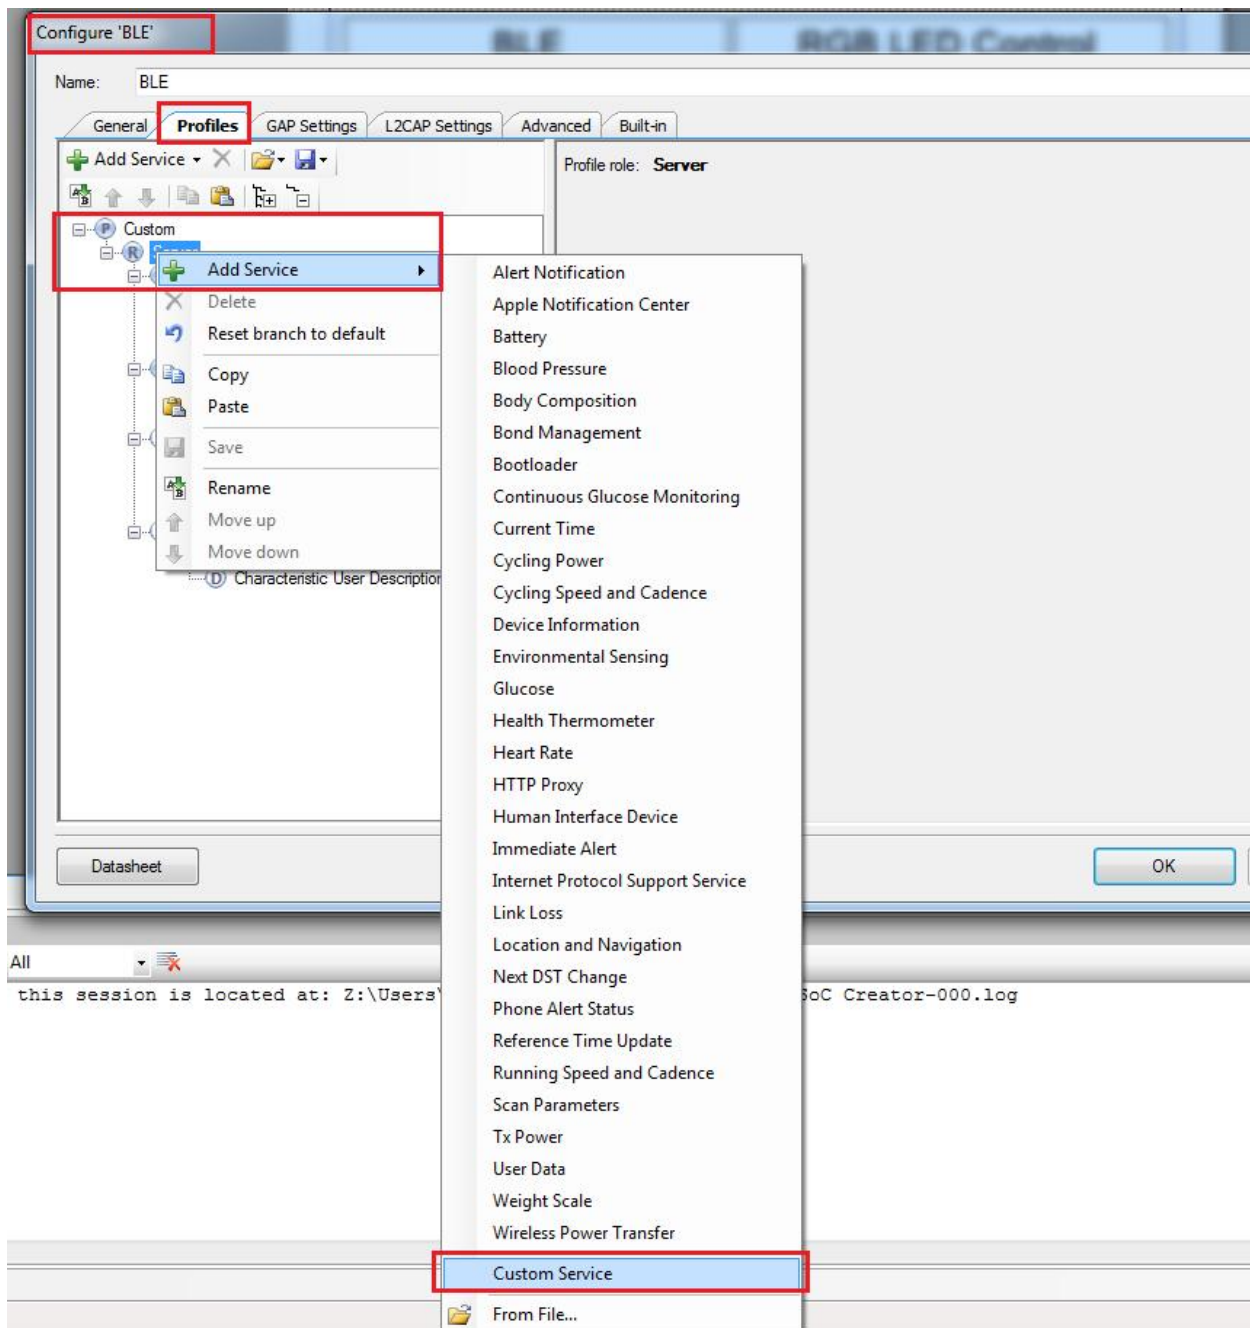

Figure 7: Add Custom Service for RGB LED
- a. Add a new Custom Service to the Profiles page by right-clicking on Server and then selecting **Add Service -> Custom Service**. See Figure 7.